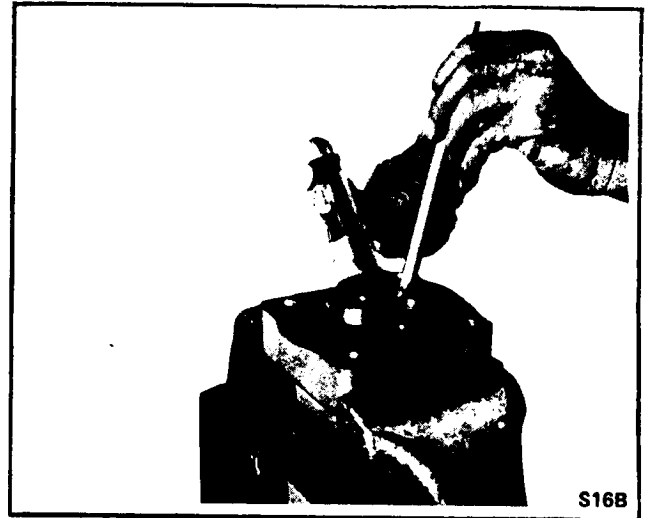
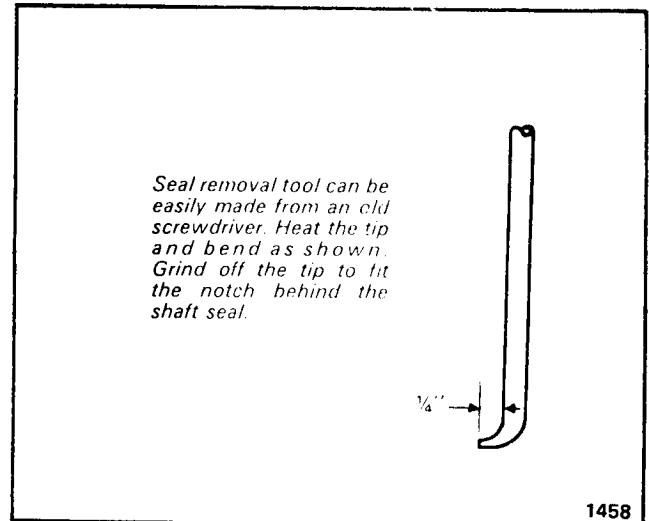

Fig. 17 - Removing Double Lip Seal
Fig. 18 - Seal Removing Tool
15. Grip the shaft end cover in a vise with the mounting face down. See Fig. 17. Remove double lip seal by inserting the special tool shown in Fig. 18 into the notch between the double lip seal and the shaft end cover. Tap out the seal and discard it.